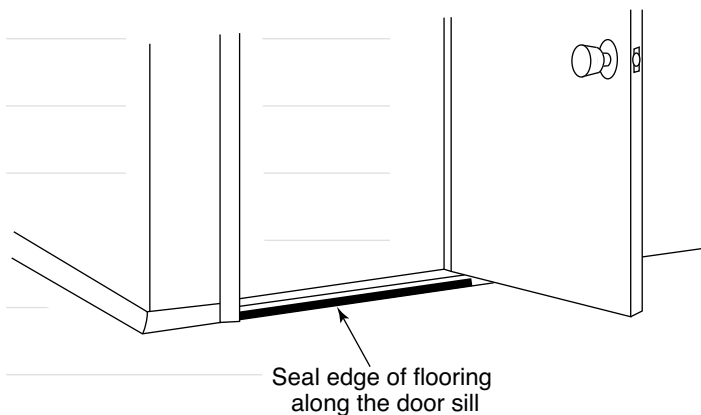

FIGURE 26
- ◆ Underlays are very susceptible to swelling in areas such as bathrooms and entrances where water either leaks or is tracked in. If joints are not sealed properly, or if flooring edges are not sealed well to the door sill, water can work its way under the resilient flooring and cause the underlay to swell (see Figure 26).